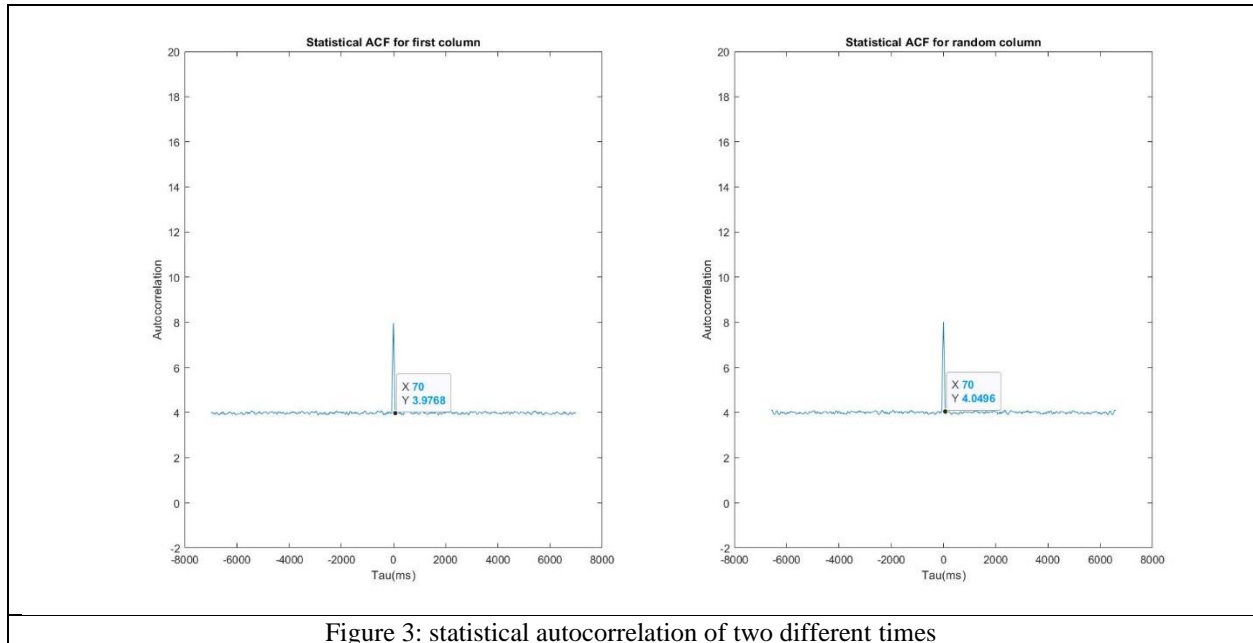

Figure 3: statistical autocorrelation of two different times
2. From figure 3, we compared the statistical autocorrelation at only two different times just to simplify instead of comparing with all times, so we can find that the autocorrelation is approximately the same in the two graphs.
- From (1) and (2), the conditions of the WSS process are verified, so we can say that a **unipolar non-return to zero process is a WSS process**.